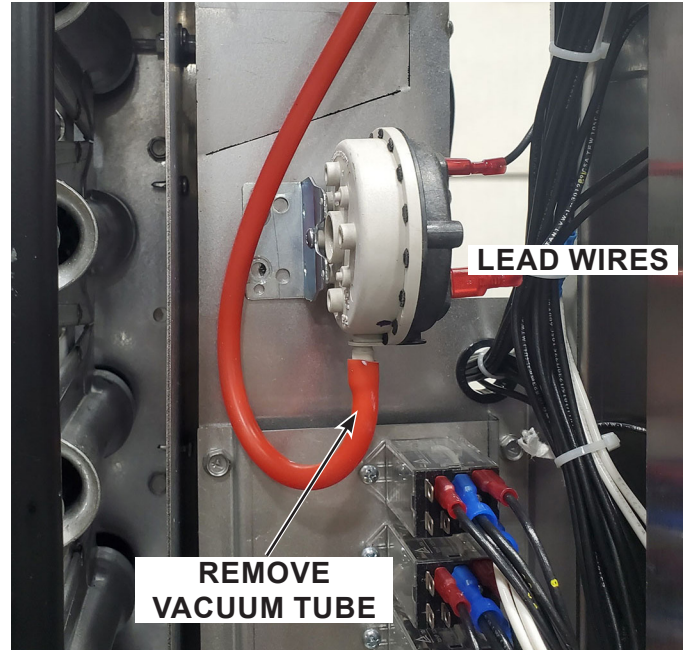

Fig. 59
- C. Loosen hose clamp (Fig. 59) and remove vacuum tube from the vacuum switch.